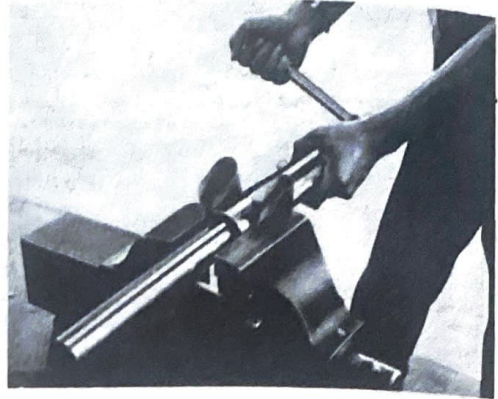

Fig. 5-6-7
- 3) Fit the front wheel shaft in the outer tube, and turn it counterclockwise. The inner tube can be separated from the outer. (Fig. 5-6-7)